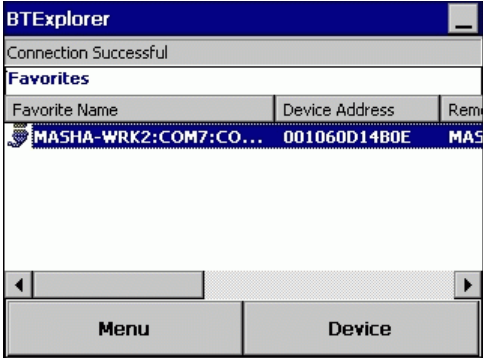

Figure 2-128 New Connection Wizard, Favorites Screen
2. Select *BTE Explorer*. If a previous connection was established, the Favorites window displays (see Figure 2-128 on page 2-97).
1. On the *Favorites* window (Figure 2-128), use the keypad and select *Device > Settings > Services*.
Open the *BTE Explorer* application to display the *Favorites* window (Figure 2-128).
On the *Favorites* window (Figure 2-128), use the keypad and select *Device > Settings > Device Info*.
On the *Favorites* window (Figure 2-128), use the keypad and select *Device > Settings > Security*.
On the *Favorites* window (Figure 2-128), use the keypad and select *Device > Settings > Discovery*.
On the *Favorites* window (Figure 2-128), use the keypad and select *Device > Settings > Virtual COM Port*.
On the *Favorites* window (Figure 2-128), use the keypad and select *Device > Settings > Profiles*.